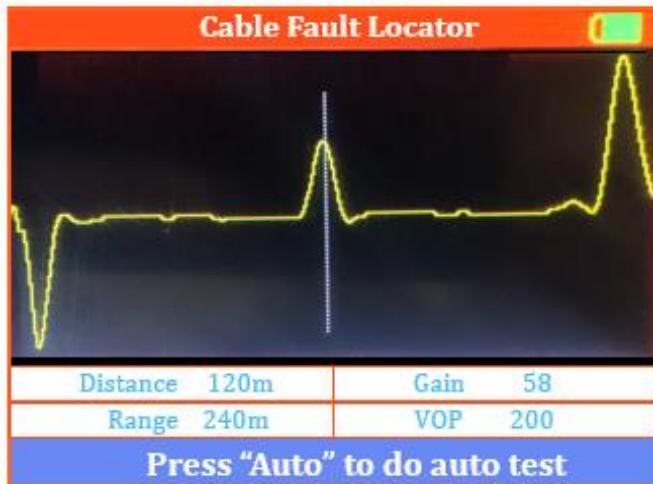

Figure 4.4 Display showing the waveform with increased gain
Pressing the “+” key (⑦ Figure 4.1) or “-” key (③ Figure 4.1) will adjust the amplitude of the trace. Pressing the “Pulse” key (② Figure 4.1) will display the adjusted waveform (figure 4.4).